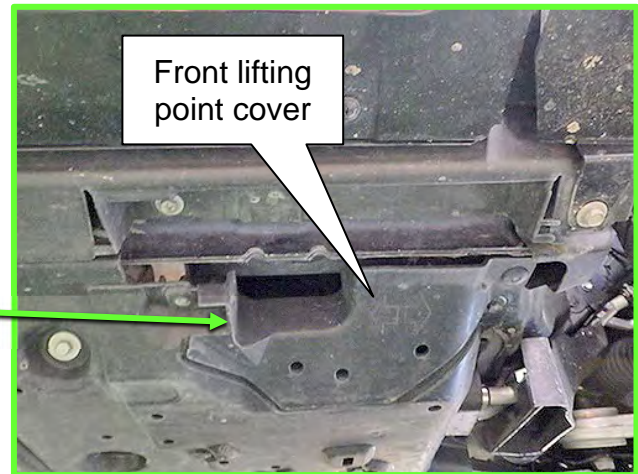

Figure 5
- The trip meter display will be reset to zero (0), so make a note of current vehicle range as necessary.
4. Remove the vehicle's front lifting point covers (Figure 5), from both the driver (LH) side and passenger (RH) side, and then place the vehicle on a lift.